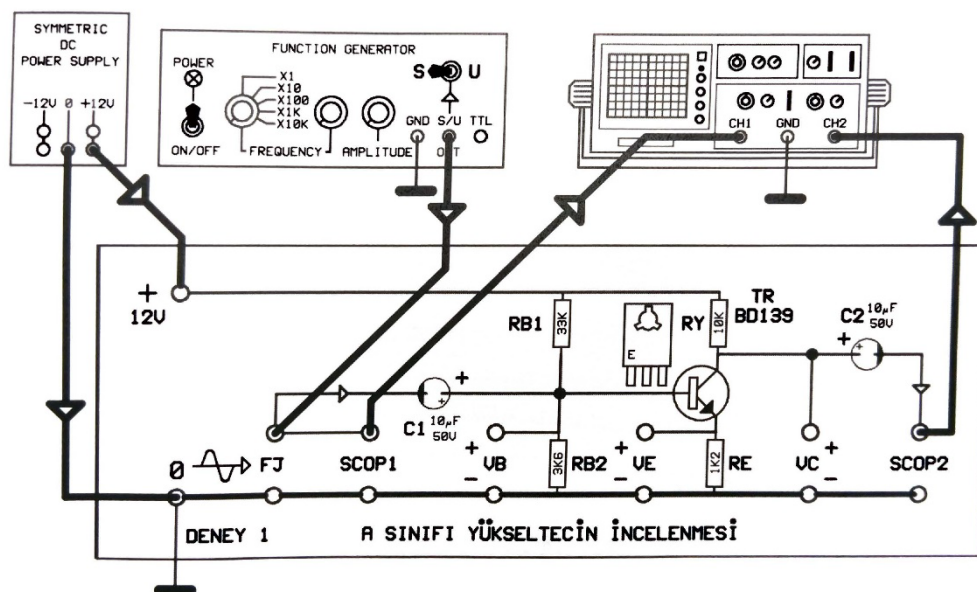
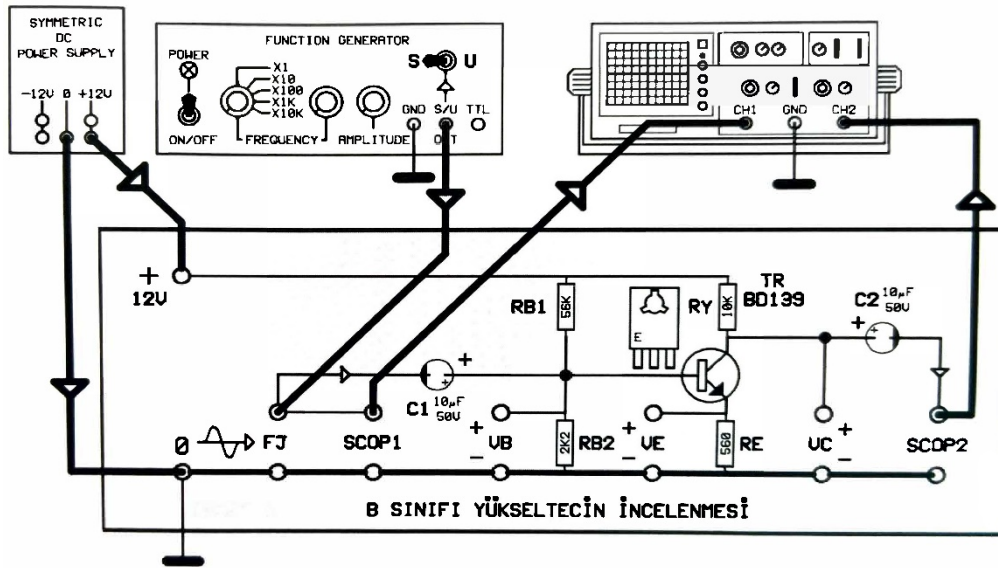

Figure 5: Connection scheme of class-A amplifier
Figure 6: Connection scheme of class-B amplifier
DC analysis of the given circuit in Figure 5 and Figure 6 should be documented into A4 paper and given to instructor(s) at beginning of laboratory hour. Beta (β) should be taken as 120
6. Connect the patch wires to the module as it is shown in Figure 5.
10. Connect the patch wires to the module as it is shown in Figure 6.